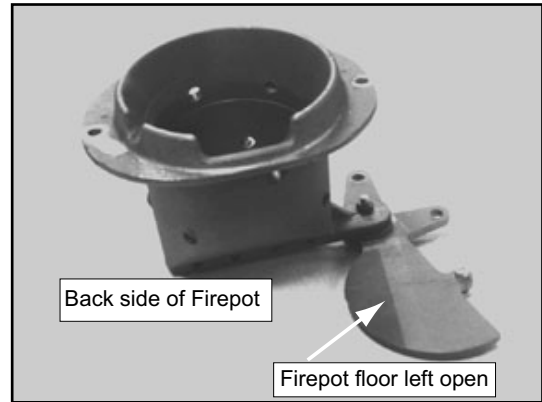

Figure 24.1 - DO NOT LEAVE FIREPOT FLOOR OPEN
- c. The firepot floor plate must be fully closed when finished. **See Figure 24.1 on page 24.**